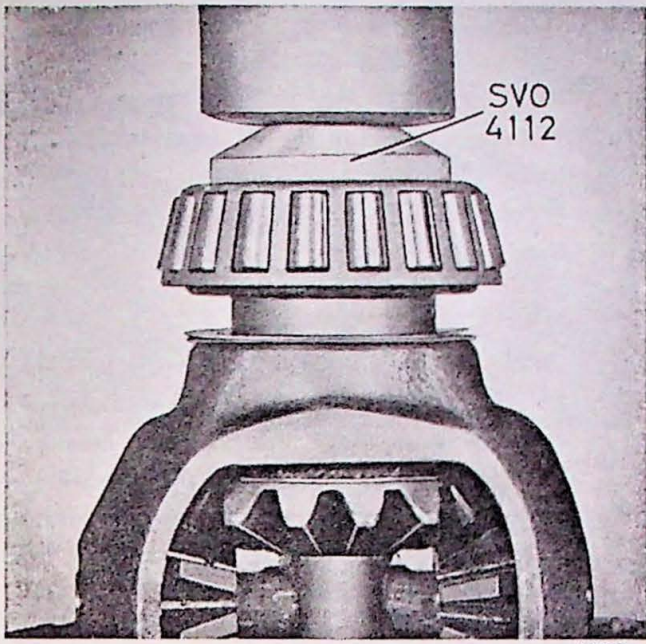

Fig. 5-18. Fitting the differential case bearings
1. Press on the differential case bearings (1) without shims. Use tool SVO 4112, see Fig. 5-18. Place the differential case with the ring gear and roller bearings in the housing. Measure the end play. The end play can be measured in two ways, either with a dial indicator or a feeler gauge. Whichever method is used, measurement must be carried out with a great deal of accuracy if a good result is to be obtained.